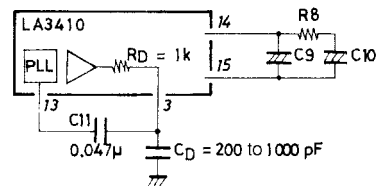

Fig. 5
Fig. 4-C shows the capture range characteristic when C9 and R8 are varied. When R8 is increased, the capture range will increase to a certain point. R8 must be set in this range. When R8 is increased, the STEREO-L, R distortion may worsen at low frequencies (100 to 400Hz). In this case, connect a capacitor of 200 to 1000pF across pin 3 and GND to improve the STEREO-L, R distortion (Refer to Fig. 5).
5. Improvement in sub, stereo (R) distortions worsened at low frequencies. There are some cases where the sub, stereo (R) distortions are worsened at low frequencies. One cause for this worsening is the phase shift between 38kHz and 19kHz in the flip-flop inside the IC. This shift is improved by connecting a phase compensating capacitor across pin 3 and GND as shown in Fig. 5. The CD value differs with each IF (the phase shift between the sub signal and pilot signal in the composite signal differs with each IF). An adequate value is 200 to 1500pF.